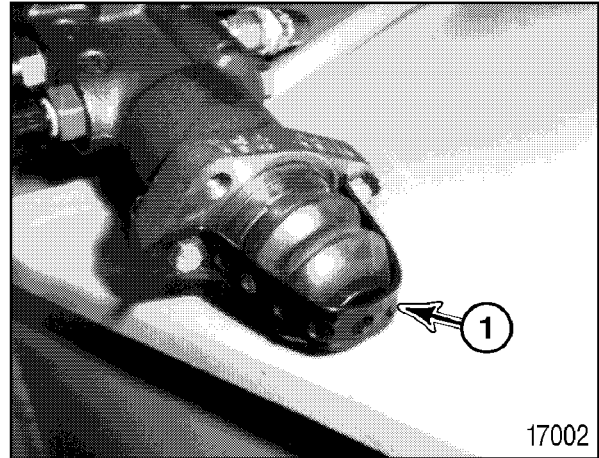

Figure 10
- Using a piece of plumbers strap (1, Figure 10), secure internal parts of brake as shown, until brake valve is ready to be mounted on the unit.